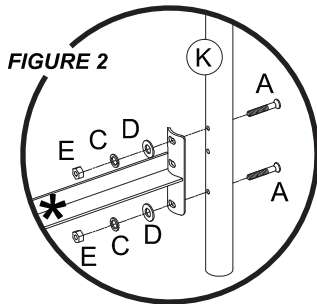

FIGURE 2
Next, attach the Bed Frame (*not included) to each Leg Extension (H) using 2 Allen Bolts (A) from the backside, 2 Flat Washers (D), 2 Spring Washers (C) & 2 Hex Nuts (E) per each post. Tighten all bolts using the Allen Wrench (F) that has been provided. The assembly is now complete. See **Figure 2**.
Attach Bed Frame or Trundle Panel (* Not included) to each Leg Extension (K), using 2 Long Allen Bolts (A) from the back side, 2 Metal Washers (D), 2 Spring Washers (C) & 2 Hex Nuts (E) per each side. Tighten all bolts only using Allen Wrench (F) provided. See Figure 2. The Assembly is now complete.